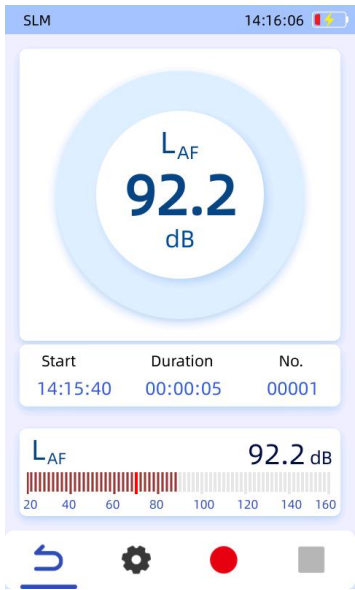

Fig 6.10 Single Value
As shown in Figure 6.10, this is the measurement interface for the sound level meter, currently displaying the measurement in “Single Value Mode” for LAF.
**Single Value Mode:** Displays a single measurement value, as shown in Figure 6.10.